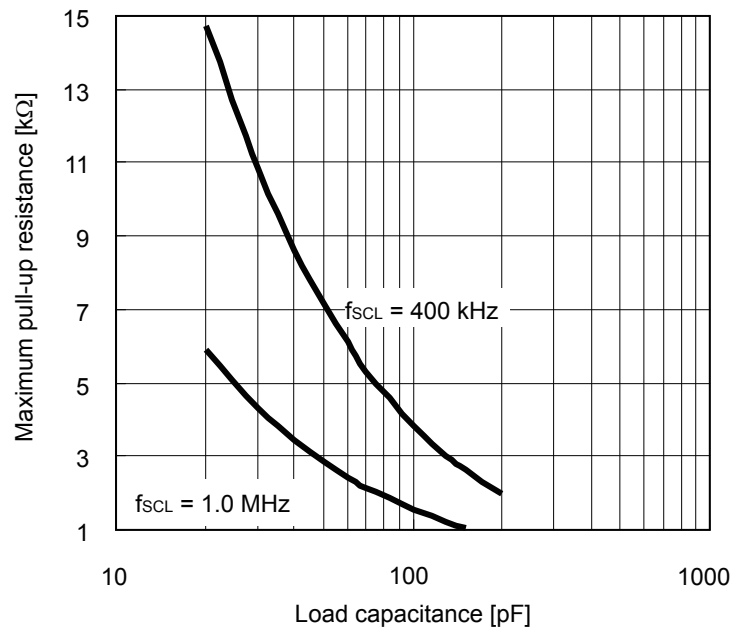

Figure 10 Output Load
*1. Since the output form of the SDA pin is Nch open-drain output, the SDA output delay time is determined by the values of the load resistance and load capacitance outside the IC. **Figure 10** shows the relationship between the output load values.